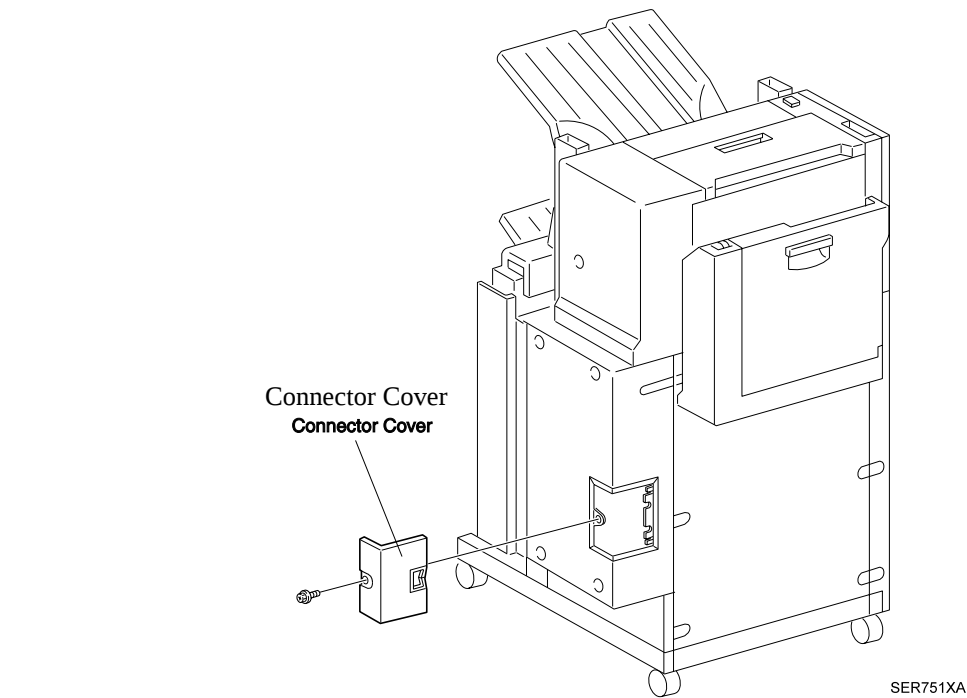

Figure 1
1. Remove the screw securing the Connector Cover and remove the Cover (Figure 1).